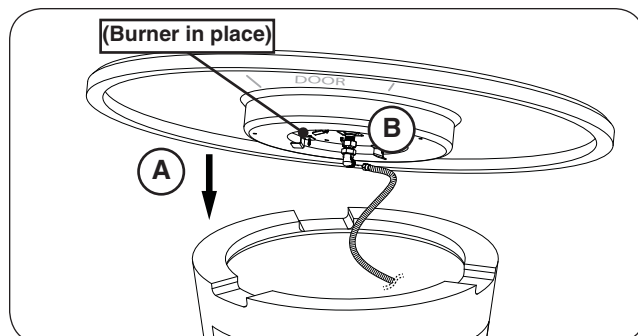

Fig. 22-3 Place top and connect flex
3. **CAREFULLY** place the top on the unit (see Fig. 22-3, A).
4. Locate the flex connector (marked OUT) that is coming off the valve assembly. Route it to the connection found on the underside of the firetable top and connect. Tighten securely. See Fig. 22-3, B.